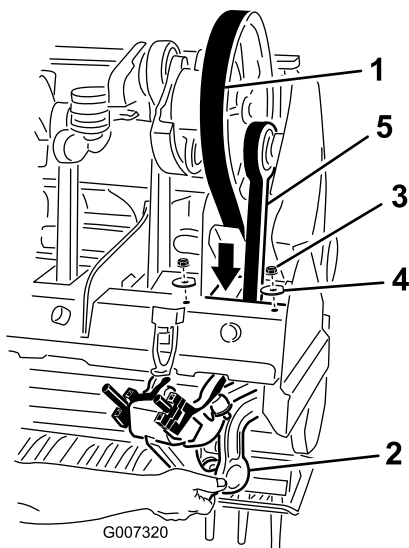

Figure 38
5. Loosen and remove the 2 locknuts and washers securing the rotalink damper for the #1 stomper arm (Figure 38).
7. Route the drive belt down through the coring head frame and around the lower end of the #1 stomper arm (Figure 38).